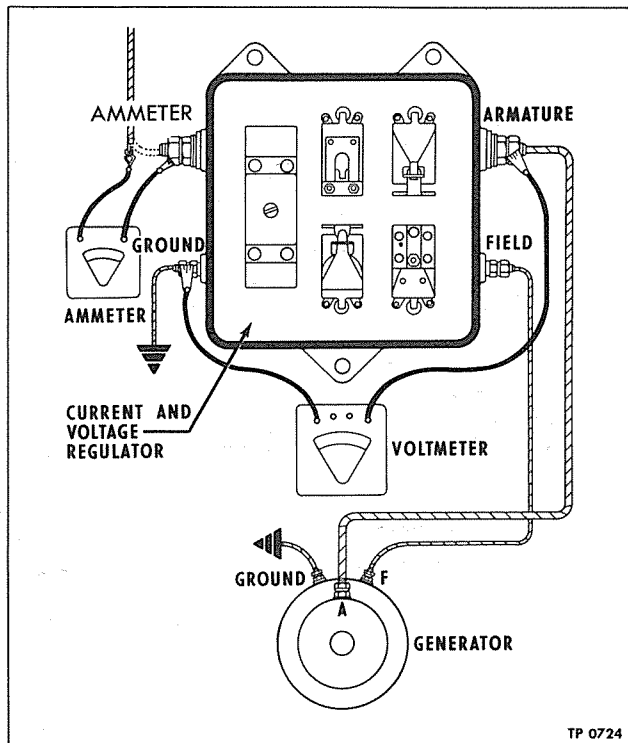

Figure 15—Meter Connections for Actuating Relay Closing Voltage Check
1. Connect a test voltmeter between "armature" and "ground" terminals (fig. 15).
2. Disconnect battery lead at "ammeter" terminal and connect a 120 ampere ammeter between "ammeter" terminal and battery lead (fig. 15).